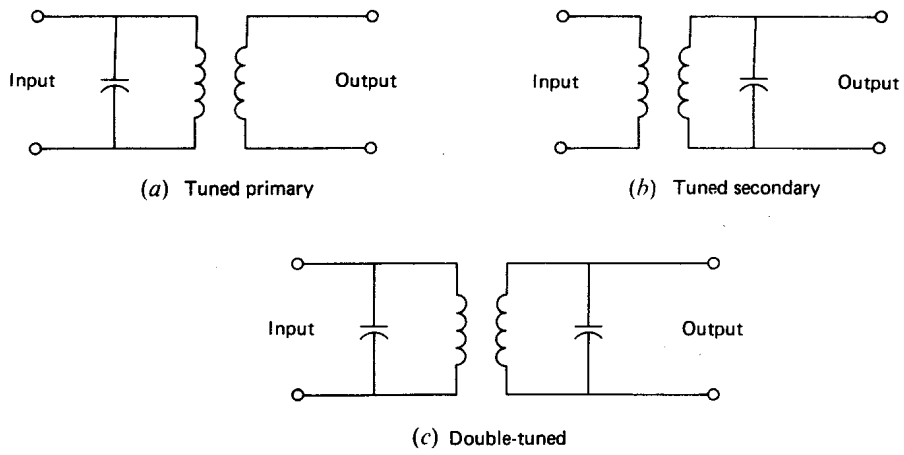

Fig. 1-11
A common coupling arrangement encountered in communications (RF) equipment is a coupling transformer. Figure 1-11 shows various tuned coupling arrangements in which a capacitor or capacitors are used in conjunction with a transformer to allow only the desired band of RF signals to pass. The connection of a capacitor to either the primary or secondary of the transformer forms a tuned LC circuit. Figure 1-11(a) shows a coupling transformer with a tuned primary whereas Fig. 1-11(b) shows a transformer with a tuned secondary. Figure 1-11(c) shows a double-tuned transformer in which both the primary and secondary are tuned.